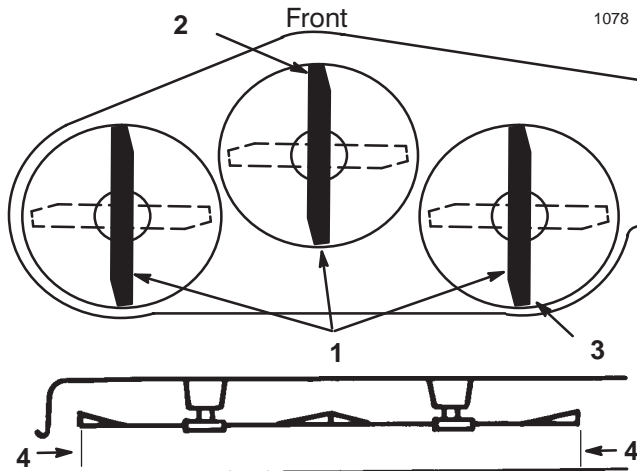

Figure 42
- Set the height-of-cut at 3 inch (76 mm) and carefully rotate the blades so they are facing front to rear (Fig. 42).
- Measure between the tip of the front blade (Fig. 42) and the tip of the rear blade to the flat surface. If the front blade tip is not 1/16–5/16 inch (1.6–7.9 mm) lower than the rear blade tip, adjust the front trunion rods.
- After adjusting both trunion rod yokes evenly, secure the yokes with the hairpin cotters. Check the front-to-rear level again. Continue adjusting the yokes until the front blade tip is 1/16–5/16 inch (1.6–7.9 mm) lower than the rear blade tip (Fig. 42).